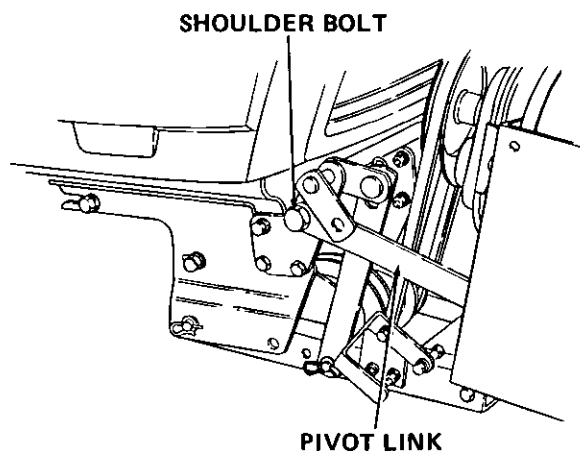

Figure 20
- b. Secure free end of each pivot link to undercarriage with shoulder bolt, lock washer and hex nut removed in step 2a. Refer to Figure 20.